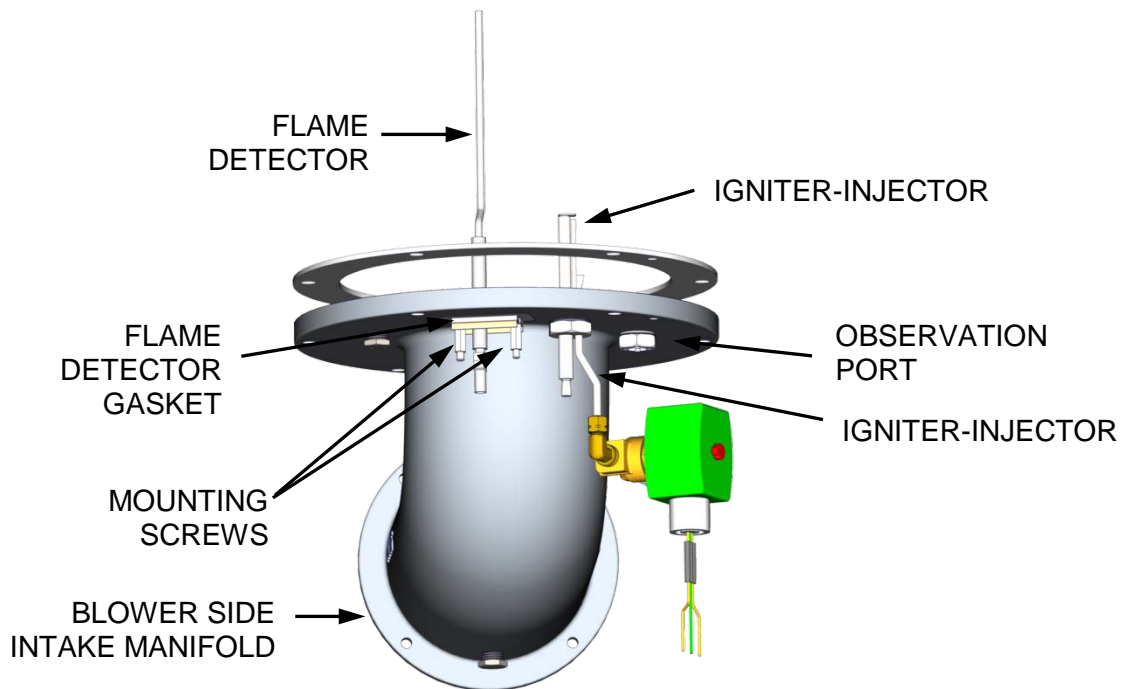

Figure 6-2. Igniter-Injector & Flame Detector Mounting Details
7. Refer to Figure 6-2 and reinstall the igniter-injector on the intake manifold flange. Install clocking washers as needed, to ensure that the igniter-injector gas tube is pointing outward, toward the perimeter of the intake manifold flange. Torque to 15 ft-lbs. Do not over tighten.
5. Disconnect the lead wire from the flame detector installed on the intake manifold flange (Figure 6-2).